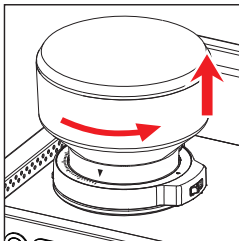

Figure 1
2. Ensure the coffee grinder is switched off and unplugged from the power outlet. Turn the hopper anti-clockwise to remove. (figure 1)